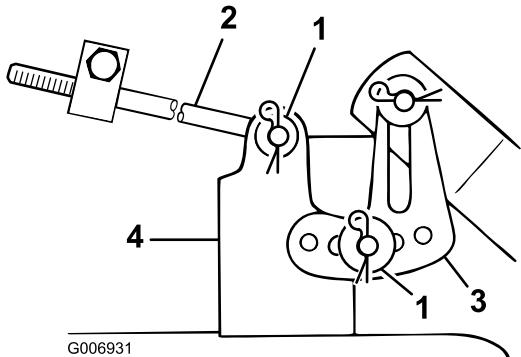

Figure 47
7. Remove the hairpin cotter and washer from the leveling bracket (Figure 47).
8. Position the leveling bracket in a different hole and install the washer and hairpin cotter (Figure 47).